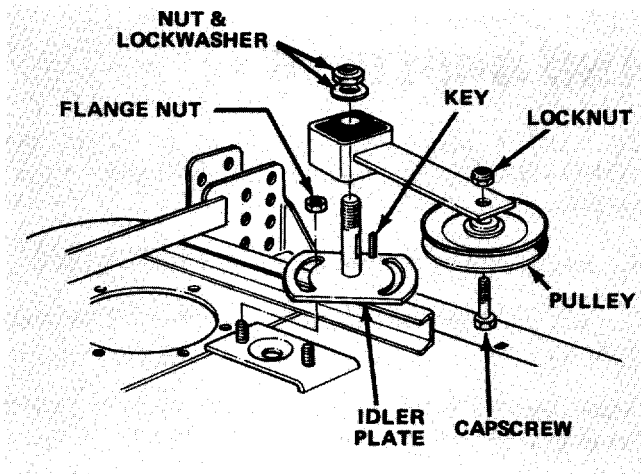

Figure 39
- Loosen two nuts securing idler plate in place (Fig. 39). Belt tension will be released when nuts are loosened.
- Remove large nut and flatwasher retaining idler arm on idler plate shaft (Fig. 39). Slide arm off shaft and account for the square key.
- Remove capscrew and locknut securing idler pulley and arm together (Fig. 39).
- Remove two flange nuts, holding slotted idler plate in place (Fig. 39).
- Loosen two nuts securing idler plate so tension of the idler pulley against the belt is released (Fig. 39).